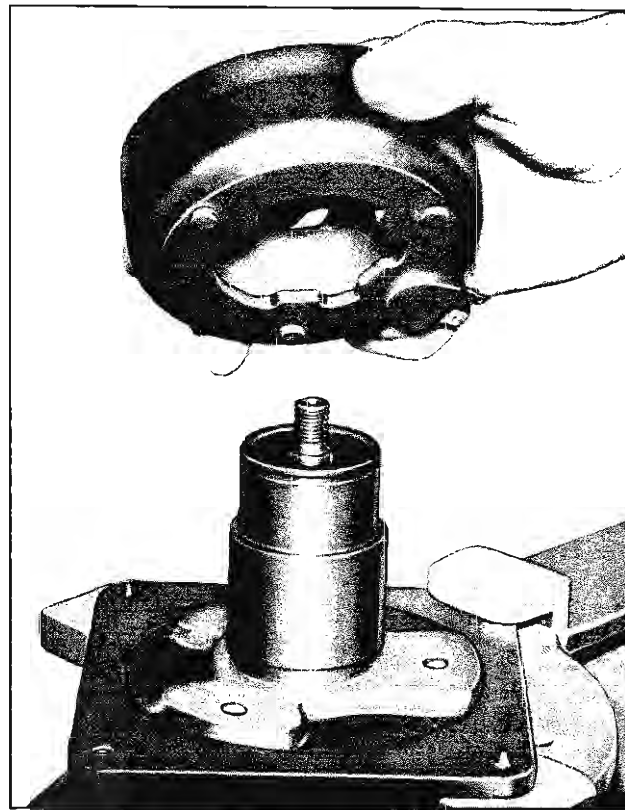

Fig. 31—Installing Coil Housing
1. Rotate the coil housing to the correct position as indicated by the scribe marks and the location of the electrical terminals and fit into place (fig. 31).